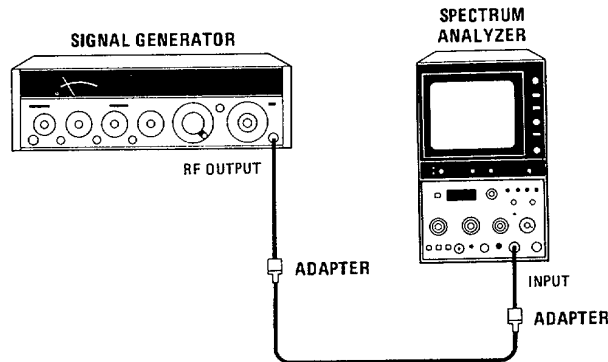

Figure 4-8. Resolution Bandwidth Accuracy Test Setup, 3 MHz to 100 kHz
- 2. Connect equipment as shown in Figure 4-8.